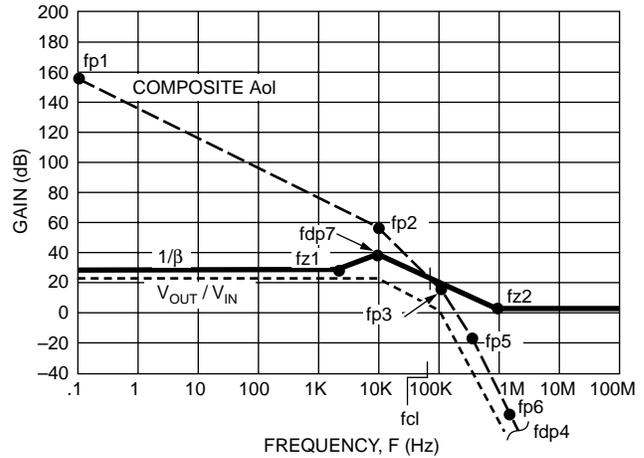

FIGURE 37. COMPOSITE AMPLIFIER MAGNITUDE PLOT FOR STABILITY
STEP 9: Compensate the composite amplifier for stability. With reference to Figure 37 we have repeated only the Composite Aol for clarity. We see that if we leave just a composite gain of 17, 25 dB, we will have a 40 dB per decade rate of closure and instability. If we try to use just Feedback Zero Compensation the 1/β plot will intersect the composite Aol slope that is 60 dB per decade with a 20 dB per decade slope yielding a resultant 40 dB per decade rate of closure. Our optimum compensation will then use both Noise Gain Compensation as well as Feedback Zero Compensation.
We will use Noise Gain to raise the 1/β curve to 40 dB and then use the Feedback Zero Compensation to roll the 1/β plot off to 20 dB per decade slope to intersect the Composite Aol at a resultant rate of closure that is 20 dB per decade. Refer to Figure 37. Notice that the V_{OUT}/V_{IN} relationship is flat until the feedback zero at fdp7 (in the V_{OUT}/V_{IN} relationship this is the pole at f = 1/(2π RFC CFC) begins to roll it off at 20 dB per decade. When the 1/β intersects the Composite Aol, loop gain has gone to zero and V_{OUT}/V_{IN} follows the composite Aol curve on down.